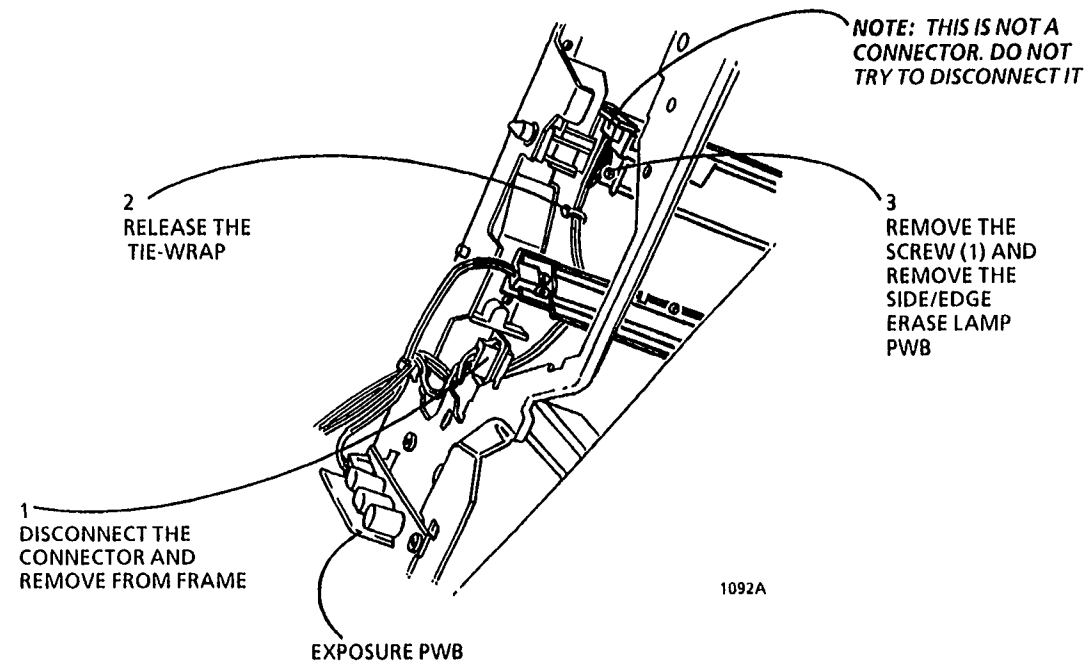

Figure 1. Removing the Side/Edge Erase Lamp PWB (W/Lamps)
4. (Figure 1): Remove the Side/Edge Erase PWB.